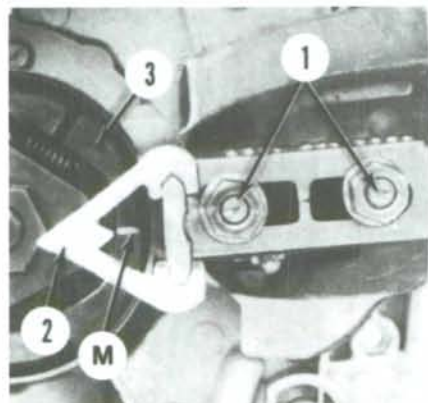

Fig. ST17—View showing reference mark (M), guide bar studs (1), special tool 0000 850 4000 (2) and clutch shoe. Refer to text for ignition timing instructions.
To check ignition timing on later Bosch and SEM ignitions, remove spark plug and install dial indicator into spark plug hole. Remove saw chain and guide bar and install special tool number 0000 850 4000 on guide bar studs with pointer toward clutch as shown in Fig. ST17. Rotate flywheel clockwise and make a reference mark (M) on clutch shoe (3) opposite of pointer (2) when piston is at 1.9 mm (0.075 in.) BTDC on models up to serial number 2783541 and 2.5 mm (0.098 in.) BTDC on models after serial number 2783541. Replace spark plug and connect a suitable power timing light. Using a tachometer, check ignition timing at 6000 rpm. When timing light is directed at the clutch, scribe mark on hub should appear to be in alignment with arrow of timing tool if timing is correct. If reference marks do not align, adjust by rotating stator plate. Recheck timing after adjusting plate.
Because the electronic trigger plate is not subject to any mechanical wear, ignition timing will remain constant as long as trigger plate is operating properly. To check ignition timing, install Stihl timing tool 0000 850 4000 on chain bar studs as shown in Fig. ST17. Using a piston locating tool, set piston at 2.3 mm (0.090 in.) BTDC on Model 020AVPE and 2.5 mm (0.098 in.) on all other models. At this point, scribe a line (M) on clutch hub in line with arrow of timing tool (2). Reinstall spark plug and connect timing light to spark plug wire. Start engine and set engine speed at 6000 rpm. When timing light is directed at the clutch, scribe mark on hub should appear to be in alignment with arrow of timing tool if timing is correct. Ignition timing may be adjusted slightly by loosening flywheel nut and rotating flywheel on crankshaft as there is a small clearance between flywheel groove and crankshaft key.